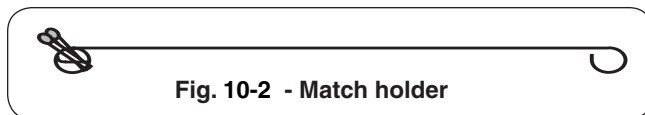

Fig. 10-2 - Match holder
2. Insert either a burning long-barrel butane lighter, a burning long-stem match, or a burning match held by a wire extension holder (Fig. 10-2) through the cooking grids to the burner (Fig. 10-3). For backburners, hold the flame against the perforated material of the backburner. For sideburners, hold the flame against the burner.